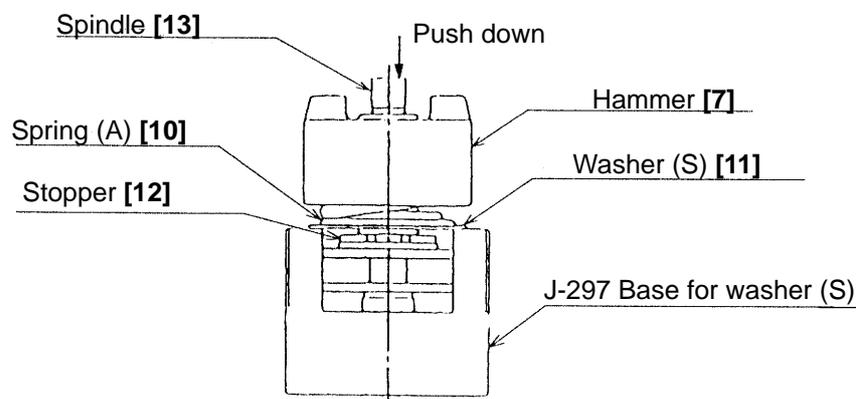

Fig. 8
(5) Disassembly of the hammer assembly
Mount the hammer assembly onto the J-297 base for washer (S). With a hand press, push down the top of the Spindle [13] to compress Spring (A) [10]. In this position, remove the Stopper [12] with a flat-blade screwdriver, then release the hand press. (See Fig. 8.)